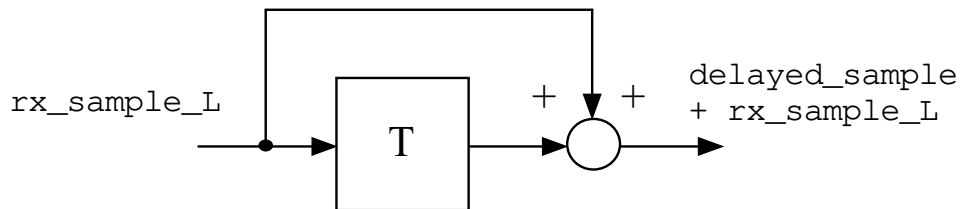

Figure 6: Block diagram representation of program *stm32f7_delay_intr.c*
2. Study the program listing in `stm32f7_echo_intr.c` and, with reference to Figure 6, draw a block diagram of the system it implements in the space provided below. In the space below that, sketch what you think its response to a unit impulse at time $t = 0$ would be (with a `GAIN` of 0.6 and a `DELAY_BUF_SIZE` size of 2000 samples).